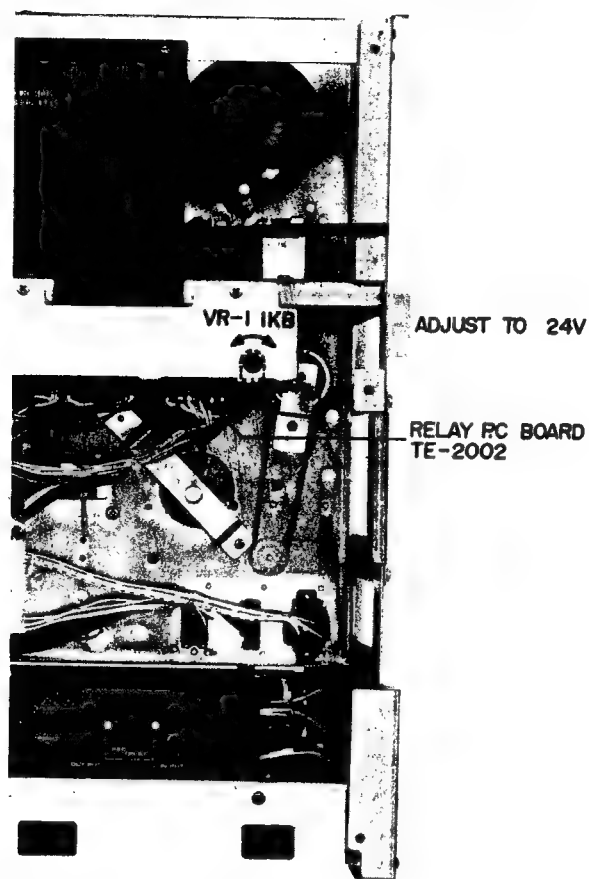

Fig. 11
1. D.C. POWER SUPPLY VOLTAGE ADJUSTMENT (Refer to Fig. 11)